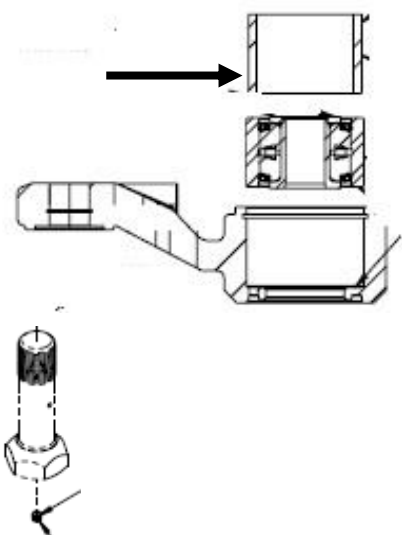

Figure 112
8. If replacing just the bearing follow the instructions in the bearing kit. Make certain that you use the tool provided to press on the OD of the bearing. The letters on the bearing are up when pressing in the bearing. If the bearing is replaced with the non-greaseable bearing the grease fitting in the head of the bolt must be removed and replaced with a plug. Figure 112.